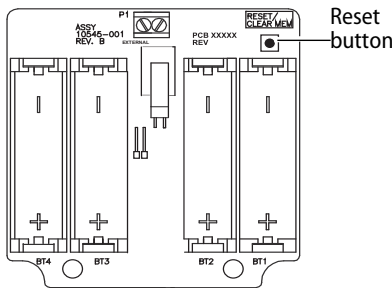
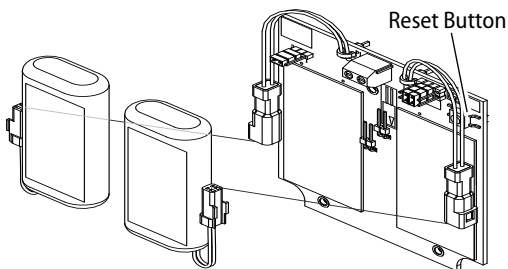

Figure 7 Wall Mount System circuit board
Figure 8 Installing weatherized batteries
- 2 Install batteries with proper polarity as shown in Figure 7. (For weatherized battery packs, simply connect the wires from the battery pack to the circuit board as shown in Figure 8.)
- 3 Press and hold the reset button on the circuit board (as shown in Figure 7) until the green light on the keypad flashes (about three seconds) then release the button.